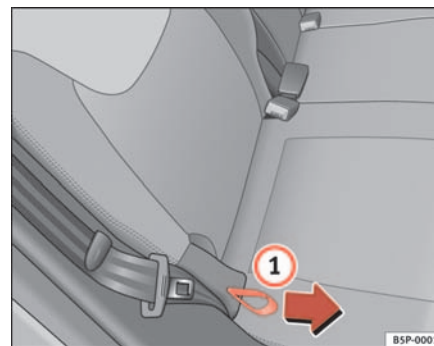

Fig. 96 Rear seat backrest angle adjustment
- Hold the backrest at the top. Pull the loop on the side of the seat ⇒ page 131, fig. 96 ① in the direction of the arrow and hold the loop in this position. Push the backrest to the required position and release the loop.